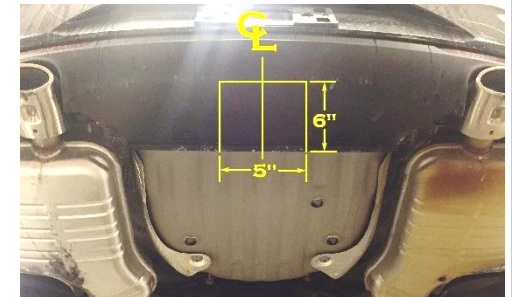

Figure 3
- 5. Bottom fascia trimming** – locate the center of bottom fascia and trim 6" deep by 5" wide area, see **Figure 3**. Make additional trimming if needed.